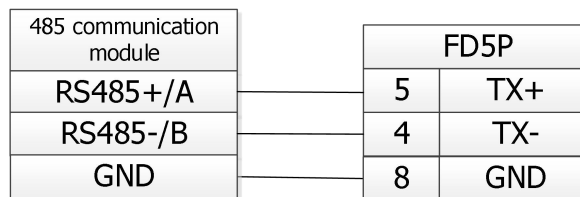
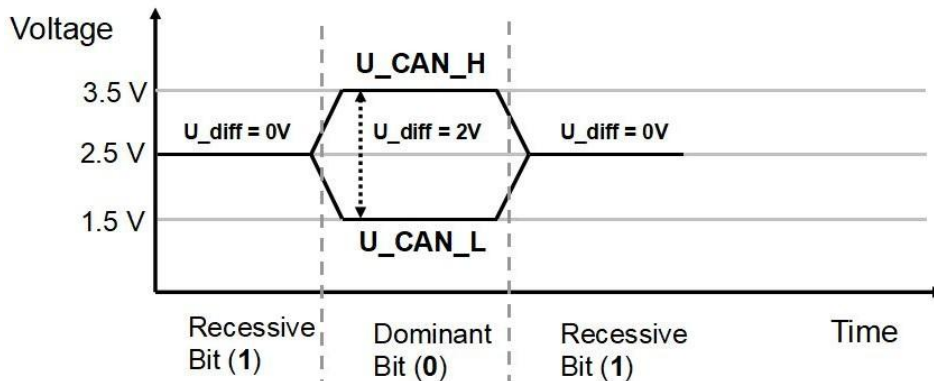

Figure 10-2 RS485 signal wiring
Figure 10-3 CAN Signal Identification
The RS485 port of the FD5P series servo drive supports the MODBUS communication function, which can be used to modify the internal parameters of the servo and monitor the servo status. The communication line of the master station is connected to X4A (IN), and X14B (OUT) is connected to the next slave device. Wiring is shown in Figure 10-2 and Figure 10-3.